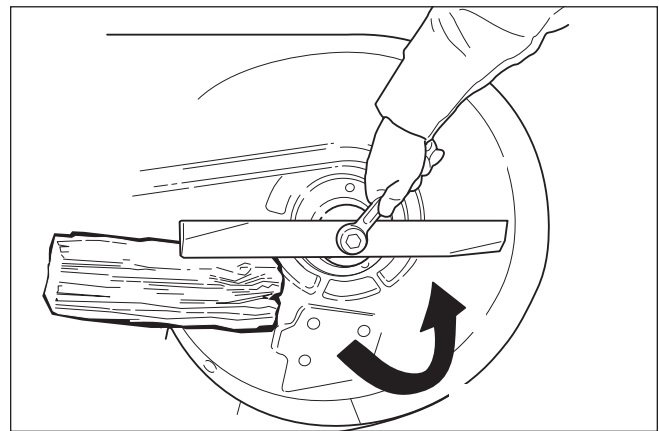

Figure 26. Loosening the Mower Blade for Removal
- To remove the mower blade, use a 1" wrench on the flats of the spindle shaft and remove the mower blade mounting bolt with a 15/16" wrench (**Figure 26**).